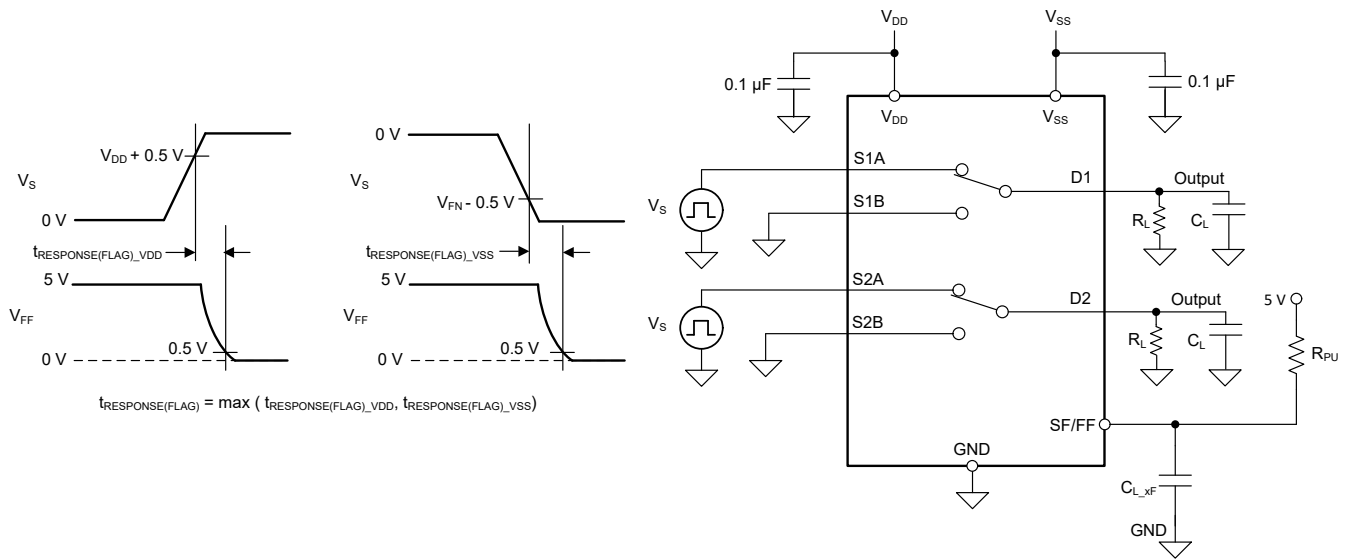

Figure 7-11. Fault Flag Response Time Measurement Setup
Fault flag response time ($t_{RESPONSE(FLAG)}$) measures the delay between the source voltage exceeding the fault supply voltage (V_{DD} or V_{SS}) by 0.5 V and the general fault flag (FF) pin to go below 10% of its original value. Figure 7-11 shows the setup used to measure $t_{RESPONSE(FLAG)}$.